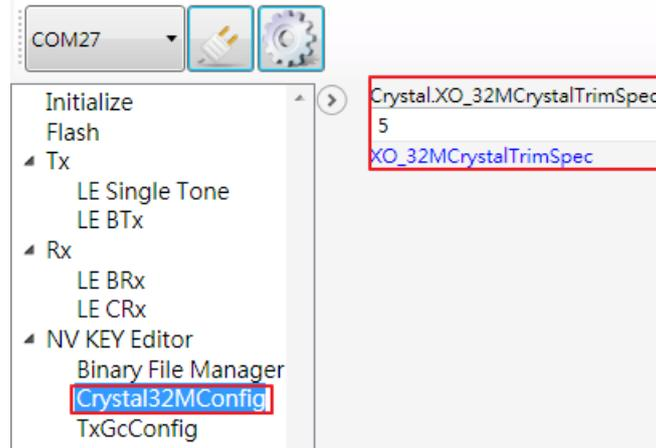

Figure 12. Fine tune crystal
- 3) Click the “Crystal32MConfig” button to set the crystal trim parameters, as shown in Figure 12.